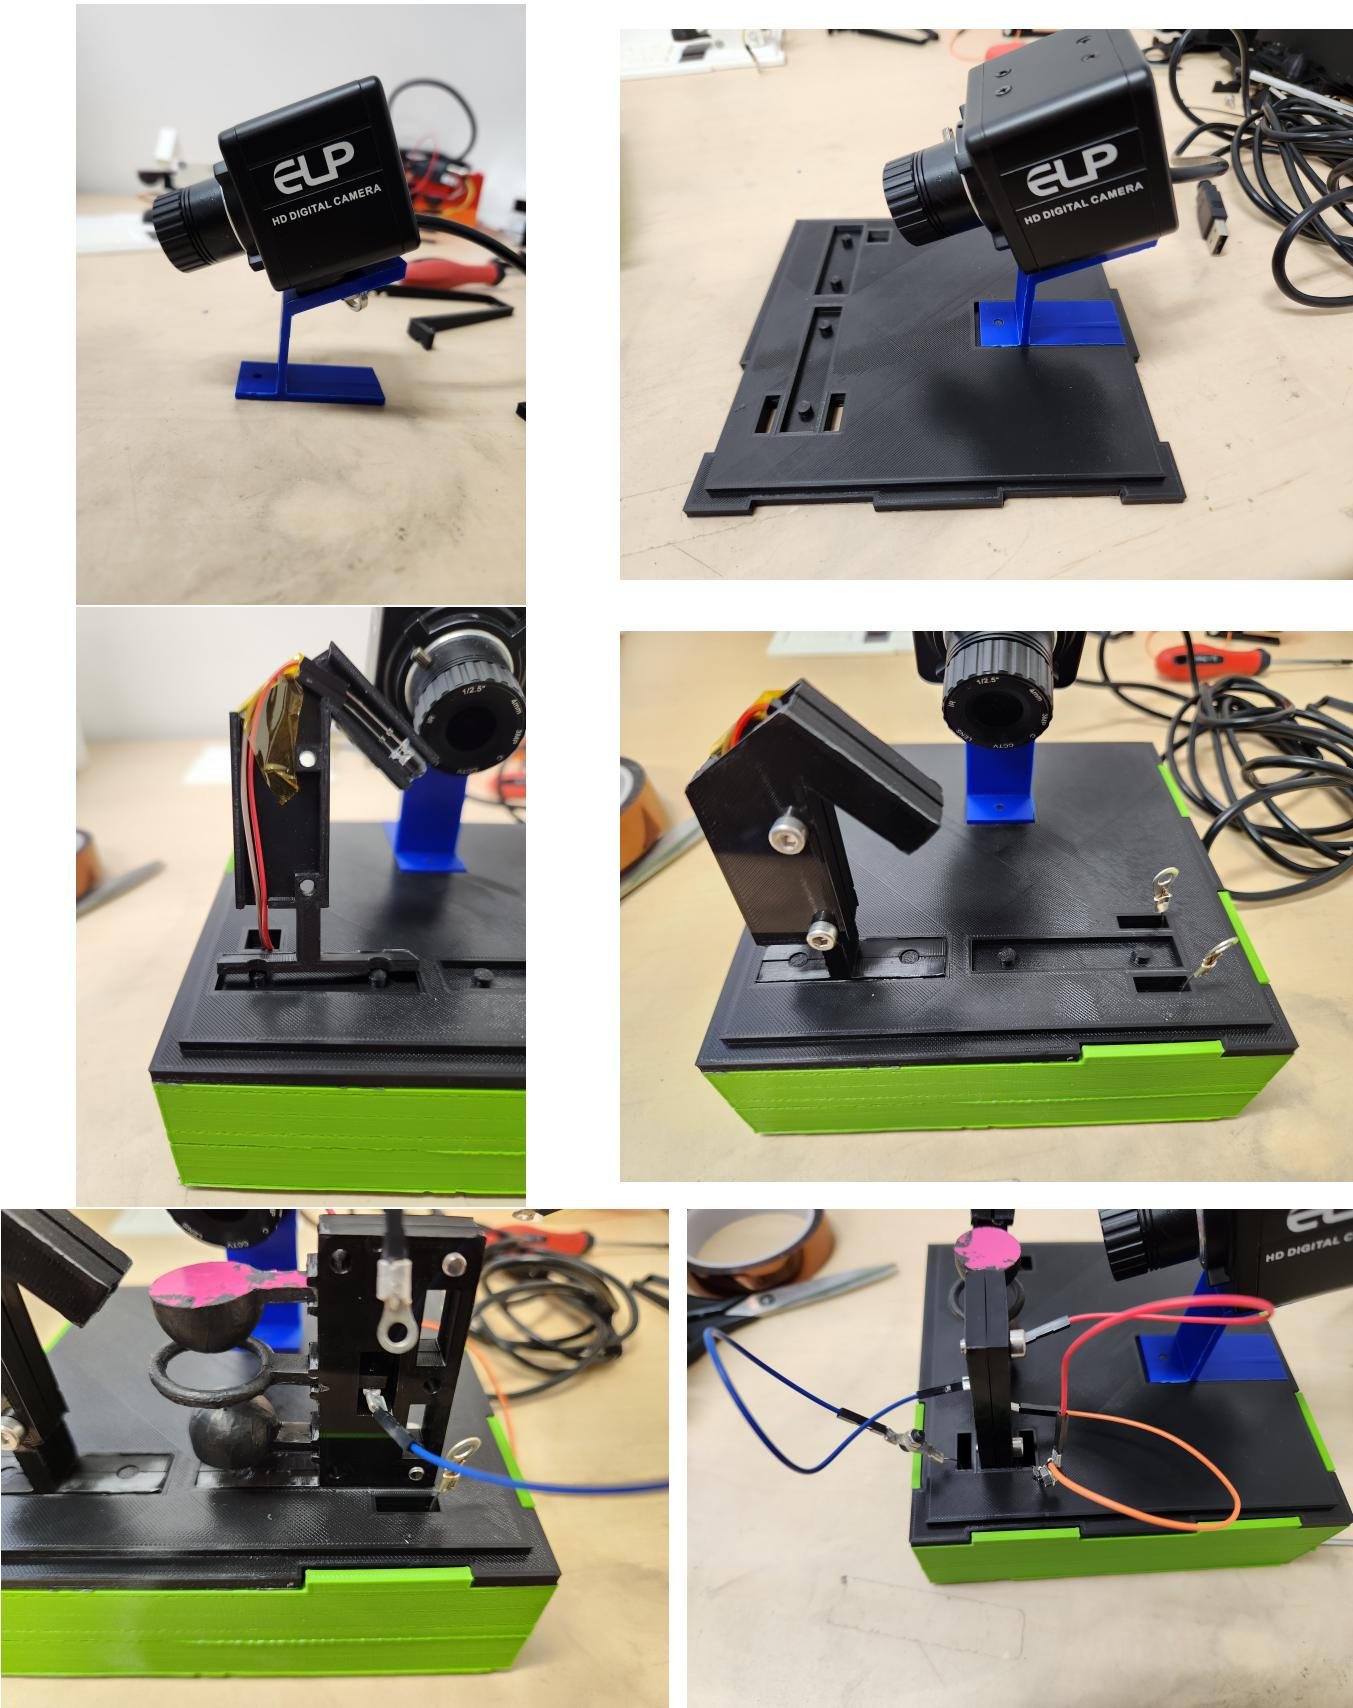

Figure 8: (top panel) web camera and `camera_jig.stl`, (middle panel) LED holder, (bottom panel) connect the electrodes to the terminals of resistors
5. Install the web camera fixture as shown in the figure and set it on the lid (Fig. 8 top panel).
7. Insert the completed electrode and LED stand into the slots. Since they are intentionally made snug for stability, firm pressure is required for insertion (Fig. 8 middle panel).
8. Connect the electrodes (ring electrode and two endcaps) to the terminals of resistors. The assembly is complete (Fig. 8 bottom panel).